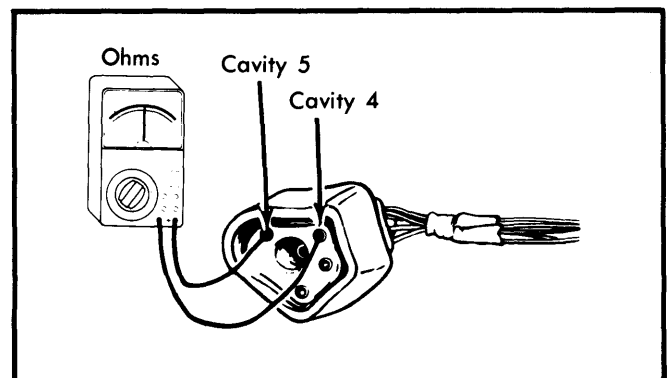

Fig. 9 Checking Resistance at Cavities 4 and 5 (Pick-Up Coil Resistance)
1) Turn ignition switch "OFF". Disconnect harness connector from control unit. Connect ohmmeter leads to connector cavities No. 4 and 5. See Fig. 9. Ohmmeter reading should be 150-900 ohms. If reading is not to specifications, make same check at distributor 2-wire connector. If reading is still not correct, replace defective pick-up coil assembly. If correct reading is found at distributor connector, but not at control unit connector cavities No. 4 and 5, replace or repair harness.